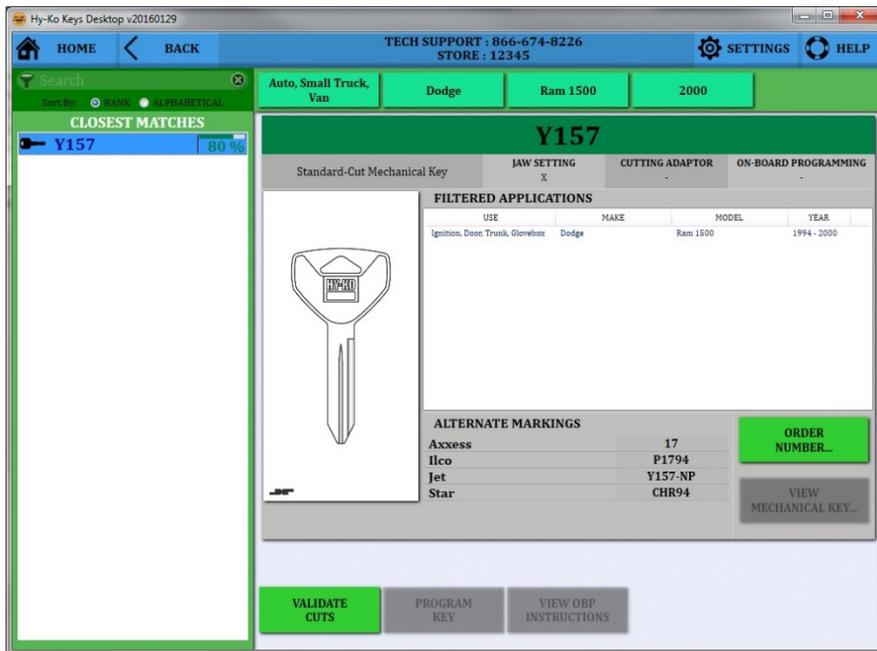

fig. 63
- Click on any key number to see the information on that particular key. An image of the blank and the cross section will be shown as well as other manufacturer part numbers and applications (see fig. 63).